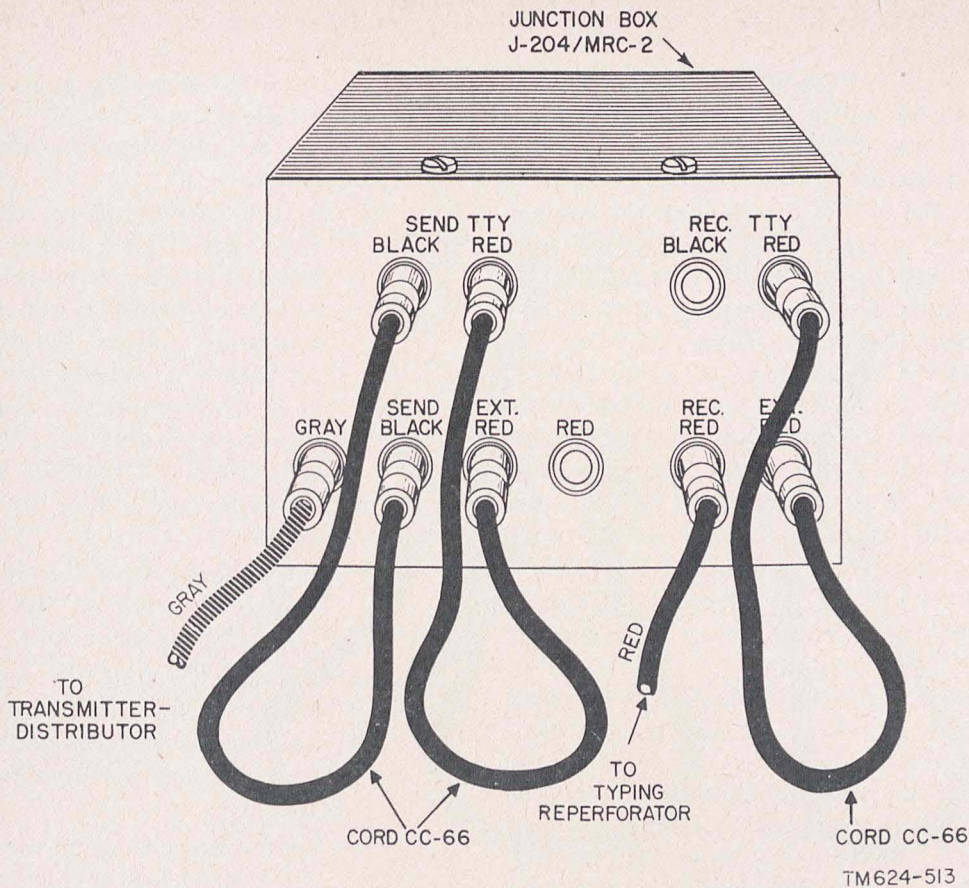

Figure 51. Normal operation and receiving on typing reperforator.
- (1) At the operating shelter, make the following connections to Junction Box J-204/MRC-2. Refer to figure 51.
- (2) Proceed as directed in *a(2)(a)* and *(b)* above.
- (3) Perform the following steps in the operating shelter: